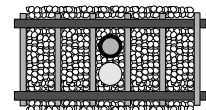
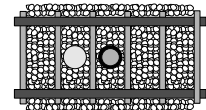
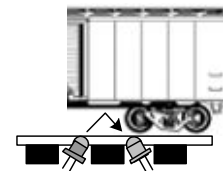

Figure 1a
Figure 1b
Figure 1c
This Infrared (IR) upgrade kit for the *Signal Animator* supplements the original instructions for ALL versions of the product (SA-1, SAD-SBCA, SAD-CC). The instructions herein describe the installation of the IR components. An Infrared (IR) emitter and detector are used for bidirectional train detection. Detection is achieved when the IR beam from the emitter reflects off the underside of the train back down to the detector. **Despite the use of infrared components you could still encounter false triggering from overhead lighting. This is usually eliminated with angled sensor mounting (Figure 1c) and/or proper sensor sensitivity adjustment (page 2). This version of the *Signal Animator* must be powered from either a 7-9V AC or 9-12V DC power source (such as our 12VPSR). Do NOT exceed these limits!**
The IR components should be mounted between the rails. Drill two 11/64" holes, approximately 1/4" apart, through the ballast, roadbed, and sub-roadbed. For the smaller scales this drilling may end up hitting the ties. Take your time so you don't mangle them! Figure 1a illustrates the suggested placement of the IR components between the rails; you may also locate them a tie apart from each other (Figure 1b). Insert the leads of one IR emitter (white and black wires) into one of the holes (it doesn't matter which one!) from the top of your layout. Repeat for the IR detector (blue and black wires). The tops of the components should sit no higher than the top of your ballast for optimal IR performance; in some cases (e.g. false triggering) it may be necessary to locate the components a little below the ballast line. You can extend the leads with similar (or larger) wire. We recommend soldering and insulating these connections. Once you have wired the IR components and verified their operation you may wish to put a dab of white glue or silicone caulk where the wires exit the holes underneath the layout. This will help to hold the components in place; make sure you don't get any substance (e.g. ballast or glue) on the top surface of the IR components as this may prevent them from operating properly. **Figure 1c is a variation of Figure 1b. In this case the IR components are mounted at an angle to each other. The benefit of this method is reduced false triggering from overhead light and increased detection reliability in smaller scales or irregular bottoms on rolling stock.**